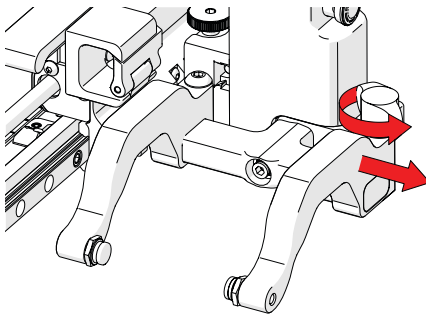

Fig. 28 - Remove outer arm
3. Loosen the probe holder adjustment knob and remove the outer probe holder arm (Fig. 28).